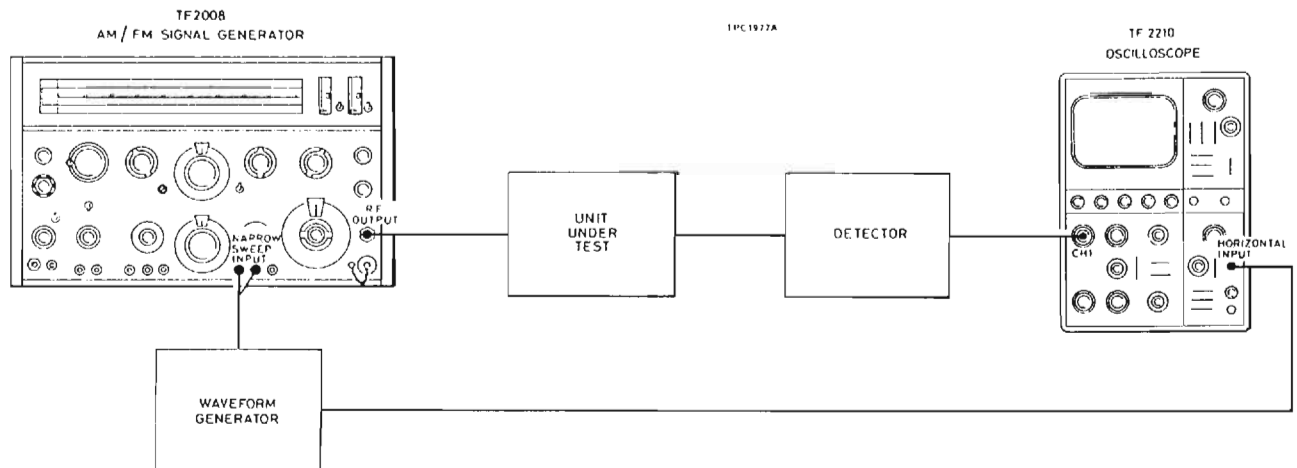

Fig. 2.7 Arrangement for narrow sweep
- (1) Connect the equipment as in Fig. 2.7. Set the MODE switch to MANUAL, the DEVIATION RANGE switch to EXT NARROW SWEEP, select the frequency range of interest with the CARRIER RANGE switch and select the centre frequency with the CARRIER FREQUENCY control.
- (2) Set the oscilloscope so that the horizontal amplifier is available without the time base running; if TF 2210 is in use, set the trigger source switches to external, select x10 mag. and advance the intensity control.
- (3) Set the sweep width by adjusting the drive from the waveform generator. About 10 V p-p will give maximum sweep for the carrier range in use according to the following table: